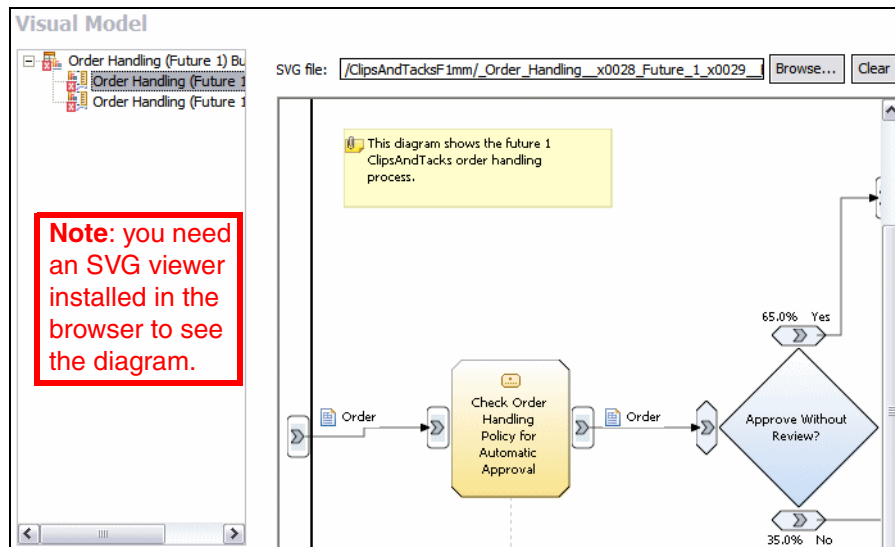

Figure 12-7 Visual Model: imported
- The Visual Model tab shows the process diagram (Figure 12-7).